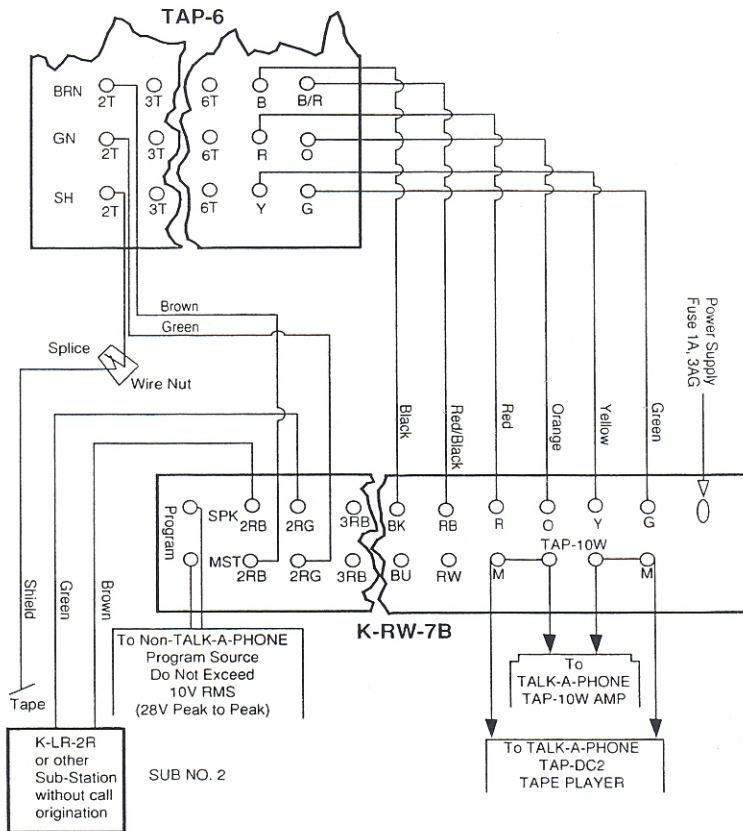

Figure 9. Wire Connections for K-RW-7B with TAP-6
1. Locate the K-RW-7B in close proximity to the Master. Cables from the Sub-Stations that will receive music route through the K-RW-7B (see Figure 9).
2. Extending from the Master is a cable tagged "use only to connect K-RW-7B Relay for use in a music system". Connect this cable directly to the K-RW-7B Relay as shown in Figure 9.